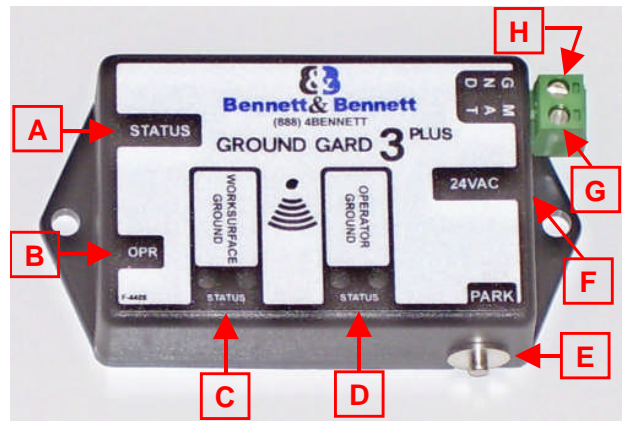

Figure 2. WSM-GG3 Work Station Monitor features and components
Features and Components (See Figure 2)
1. Plug a wrist strap cord, not attached to the wristband, into the monitored banana jack labeled OPR on the side of the unit (See Figure 2). This automatically activates the selected operator channel. The red operator LED should illuminate.